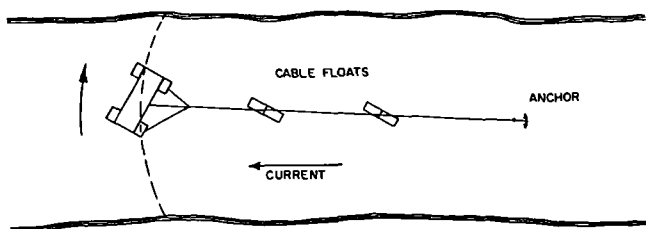

Figure 205. *Flying ferry.*
b. *Flying Ferry.* A flying ferry (fig. 205) works on the same principle as the trail ferry except the raft is held in the stream by an anchor well upstream from the crossing site. As the ferry moves shore to shore it describes an arc, the center of which is the anchor. The anchor cable should be at least $1\frac{1}{2}$ times as long as the width of the stream and floats should be provided to keep the cable clear of the water.